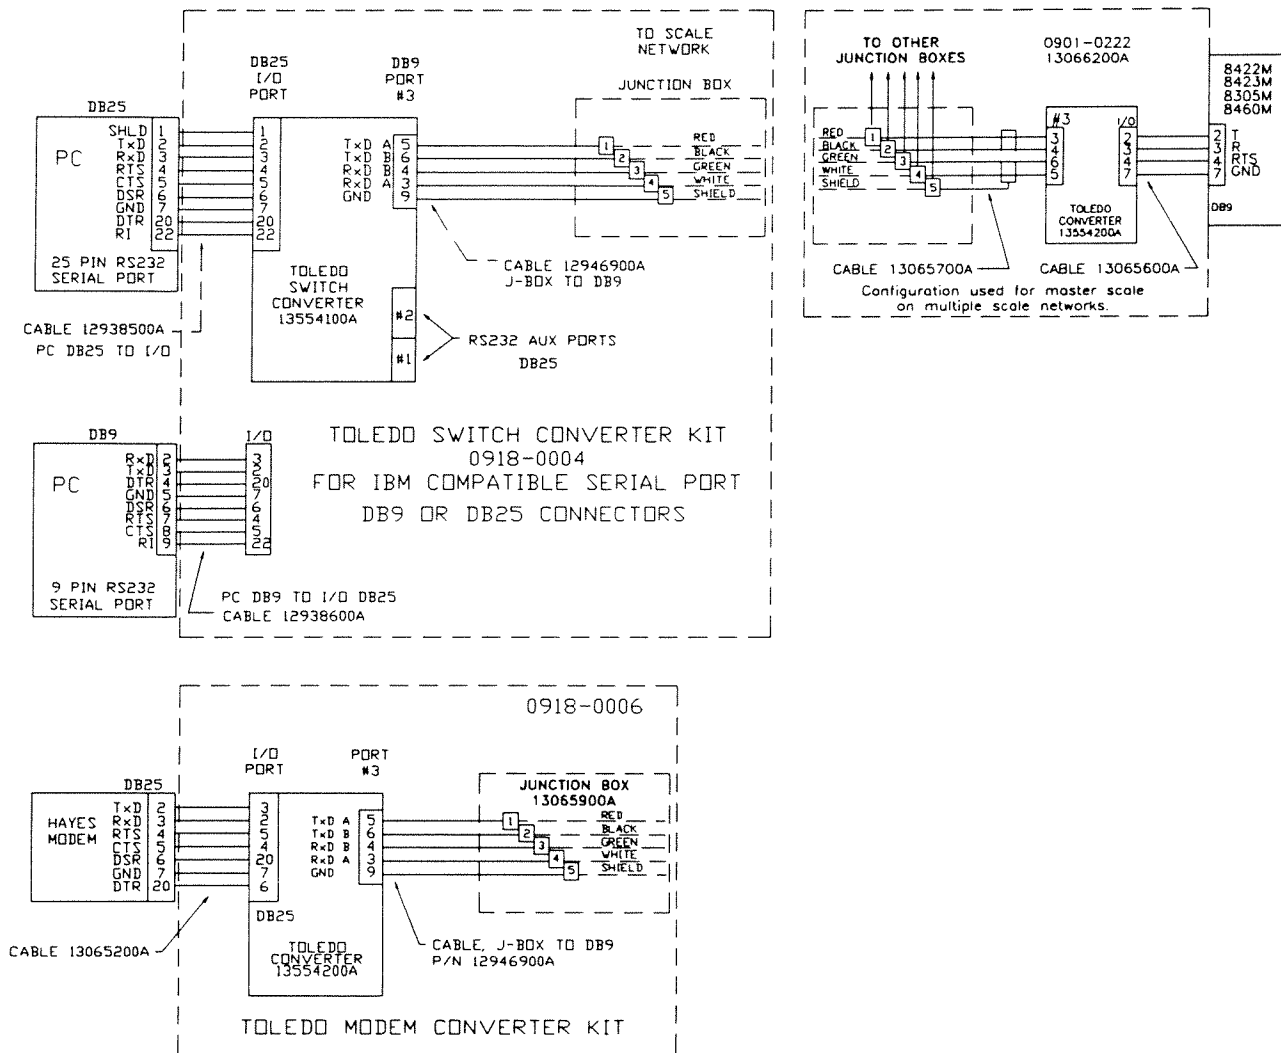

Figure 5.7 RS422 Host Network Wiring
5.8 HOST RS422 NETWORK WIRING (Figure 5.7)